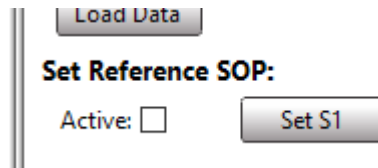

Figure 37: Press the *Set  $S_1$*  button to rotate the measured state to the  $S_1=1$  state.
- ii. On the GUI, press the *Set  $S_1$*  button (See Figure 37). The measured SOP state will move to the  $S_1=1$  state. The *Set  $S_1$*  button will now read *Set  $S_2$*  and the selection box on the left of the button will be activated (See Figure 38).